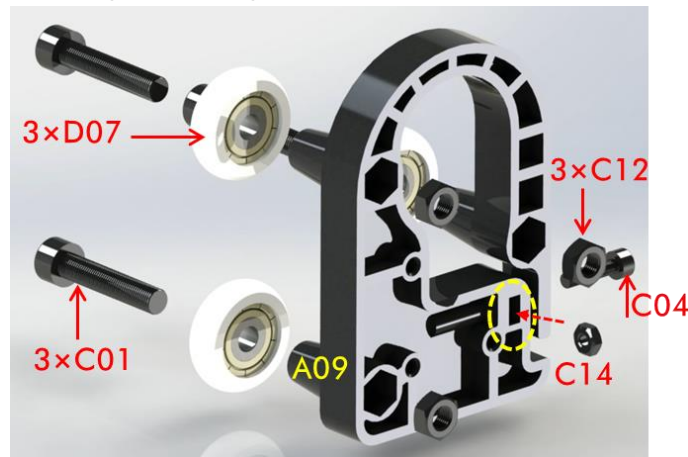

Fig. 15
(2) Pulley Version
Step 1. As shown in Fig. 15, fix 3 pulley wheels (D07) to the carriage (A09) using 3 pairs of C01 and C12. Insert C14 into the dash-circle area and fix a C04 screw from the side. Do not over tighten or twisting the carriage. Do the same to the rest of 2 carriages.